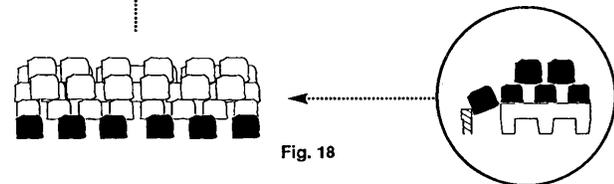

Fig. 18
5. The final six large coals should be placed between the door of the stove and the ceramic base (Fig. 18).